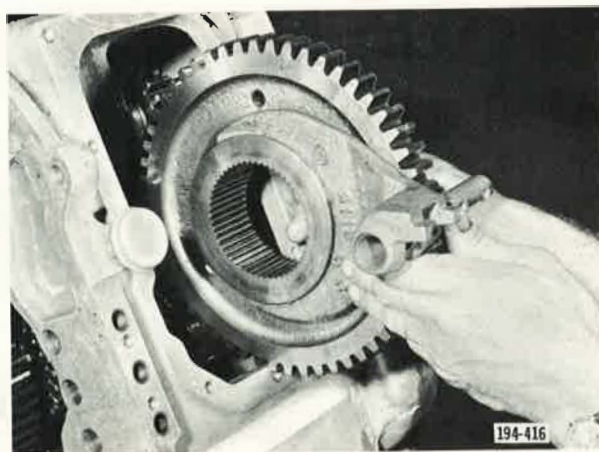

Figure 24. Removing Reverse Gear and Shifter Fork
7. Remove reverse gear and shifter fork. See Figure 24.